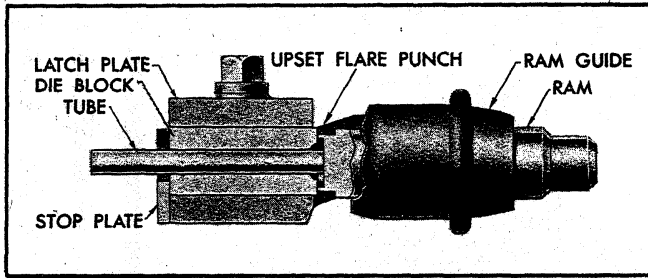

Fig. 13—Flaring Operation—Positioning Tubing
5. Select the correct size upset flare punch. One end of this punch is counterbored or hollowed out to gauge the amount of tubing necessary to form a double lap flare. Slip the punch into the tool body with the gauge end toward the die blocks. Install the ram; then tap lightly until the punch meets the die blocks and they are forced securely against the stop plate (fig. 13).